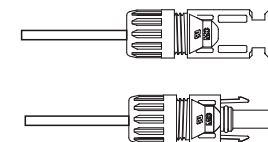

Figure 3.21 Connector with Cap nut Screwed on
4. Insert crimped pin into connector housing fully until it clicks, and tighten the cap nut to 2.2-3 ft.lbs (see figure 3.21).